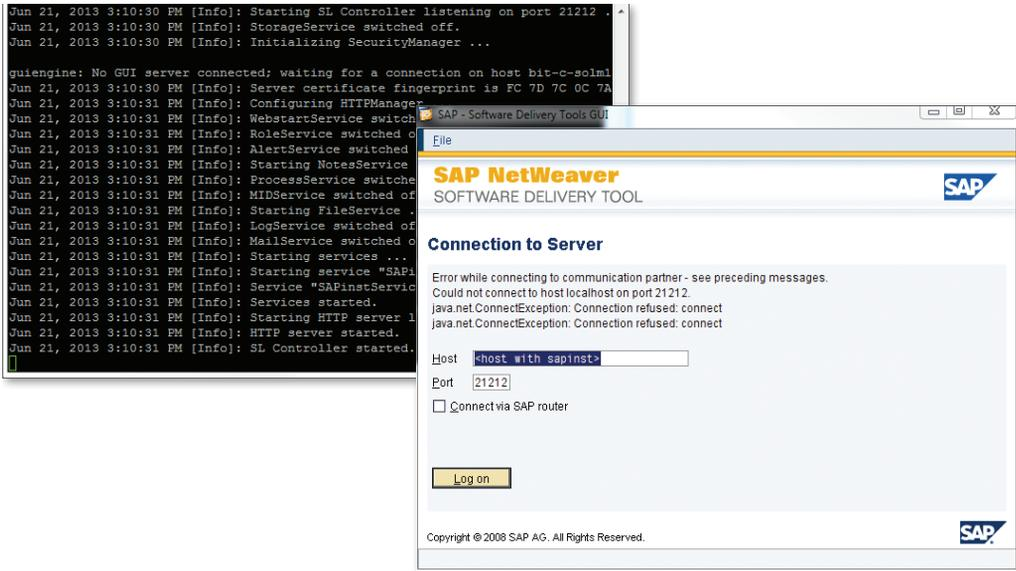

Figure 2.7 Establishing a Connection to the Remote System to Be Connected
4. Open the `SMD730_00_IM_WINDOWS_X86_64` folder in your installation package and start the `sapinstgui.exe` program. A new window opens (see Figure 2.7), in which you need to enter the server information to connect with the remote installation.
5. In your remote system, check which port the installation opened, and enter the port in the remote connection mask. As you can see in Figure 2.7, our example uses port 21212 for establishing the remote access.